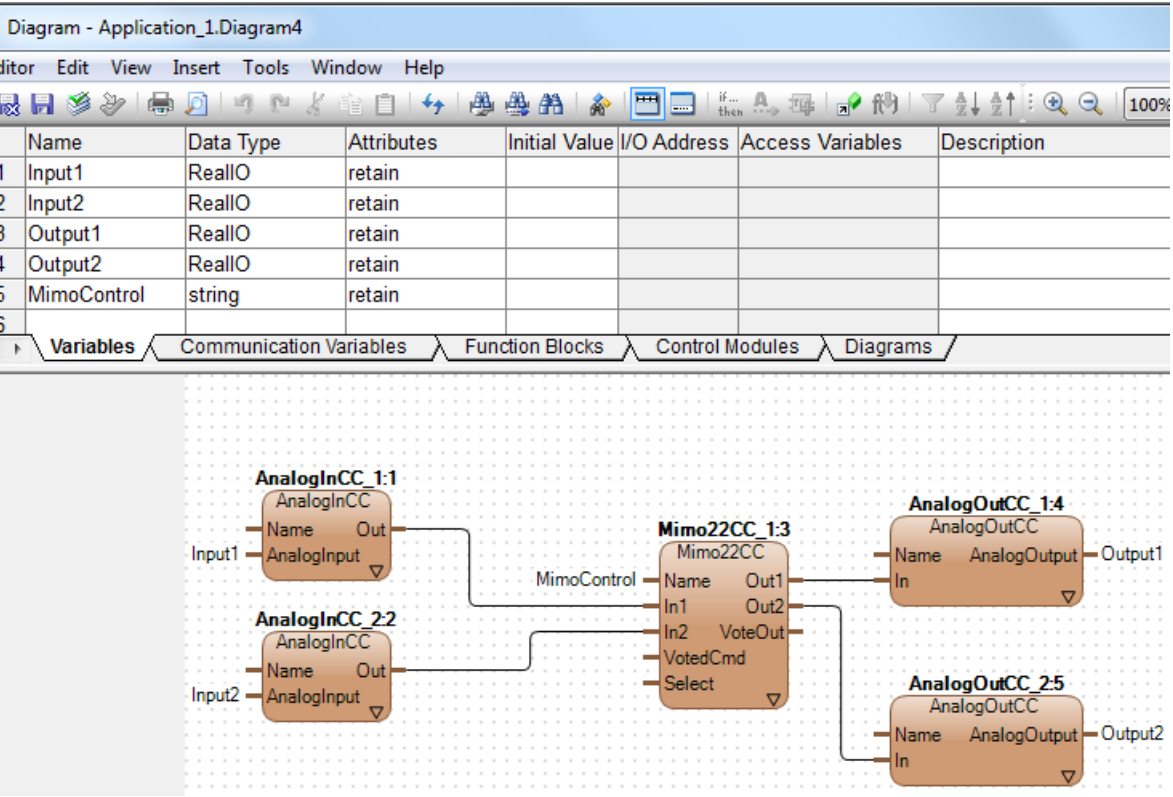

Figure 48. Mimo22CC connected in diagram editor
11. Connect the control modules correctly. Figure 48 shows the completed connection for the MIMO22CC object in the diagram editor.